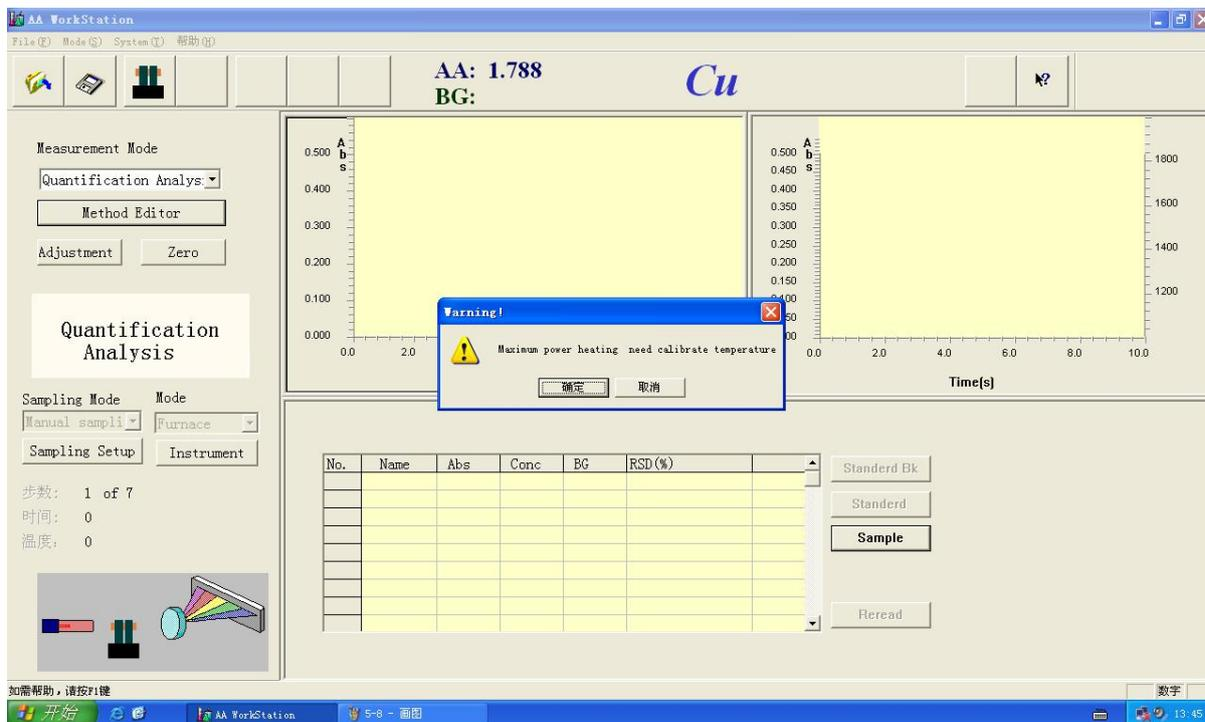
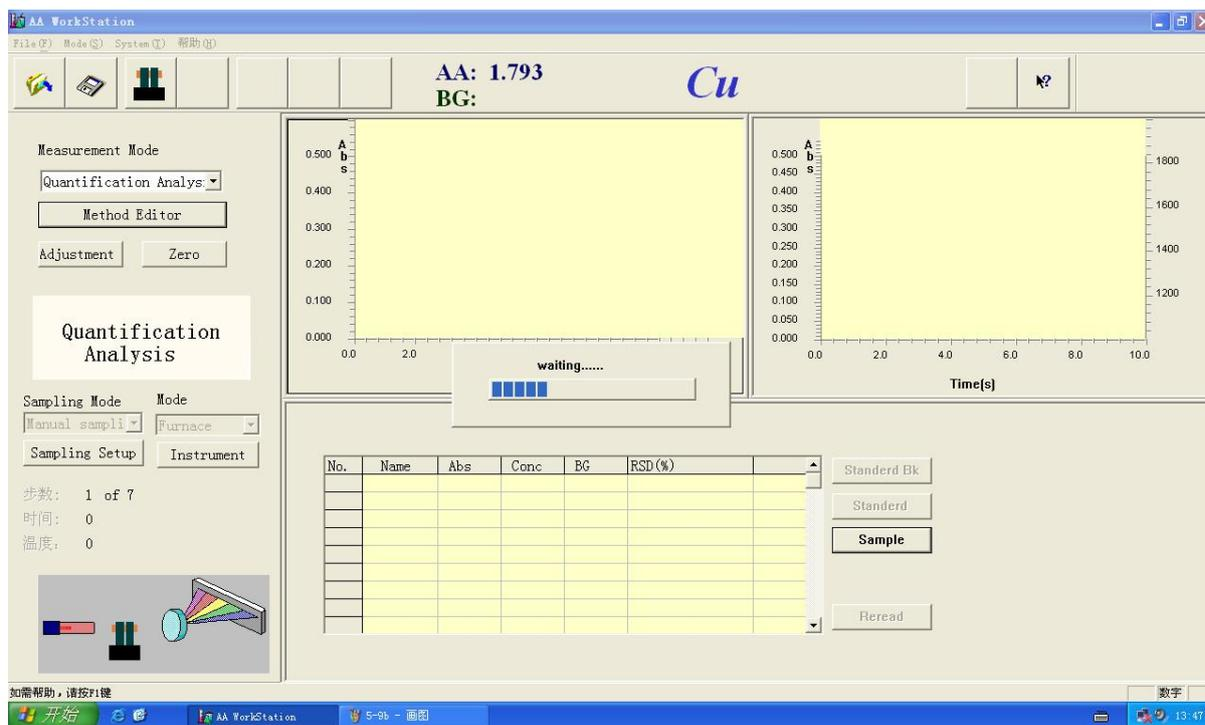

Figure 5-9a
Figure 5-9b
13.Press the “Start” Figure 5-9a pops up.(If close the ”Furnace Parameters Editor” window,press the “Sample”,it pops up as well).
**NOTICE** When to need maximum power heating press the “Start” when powering the instrument on or press the “Start” when you change the condition of the atomization,Figure 5-9a dialog box pops up,press the “Ok” to start the automatically calibrating temperature,see Figure 5-9b.When it ends up Figure 5-9b automatically disappears, warning tone of “du” will sounds,then you can test sample now.
13.Press the “Start” Figure 5-9a pops up.(If close the ”Furnace Parameters Editor” window,press the “Standard BK”,it pops up as well).